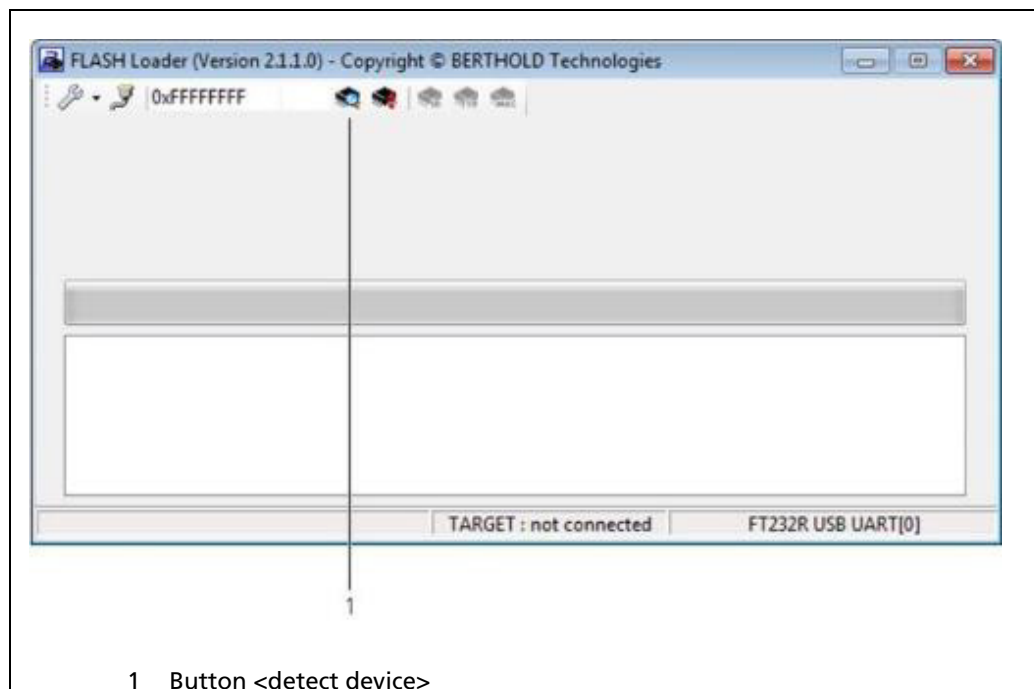

Fig. 51 Flash Loader Main Screen
8. Click on the tab <USB> (Fig. 51, item 1).
9. Select a baud rate of 1200 in the selection menu (Fig. 51, item 2).
10. Click on <Connect> (Fig. 51, item 3).